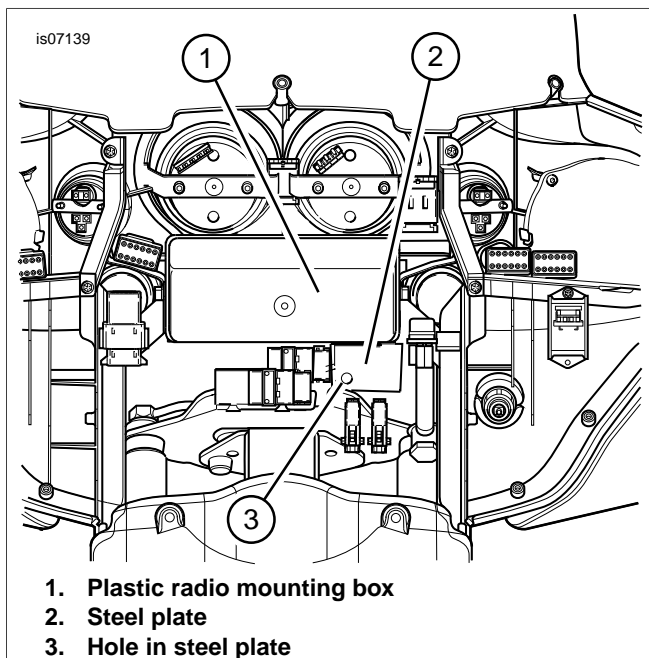

Figure 10. Locate the Steel Mounting Plate (2013- Earlier FLHTP Models)
See Figure 10. The power supply mounts to the steel plate (2), directly under the plastic radio mounting box (1), immediately to the right of the steering head.